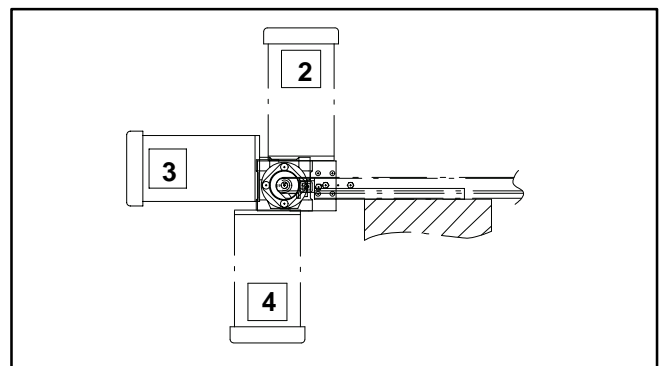

Figure 5
**NOTE:** Gearmotor may be operated in positions 1, 2, 3 or 4 (Figure 5). Position 4 may reduce gear reducer oil seal life.